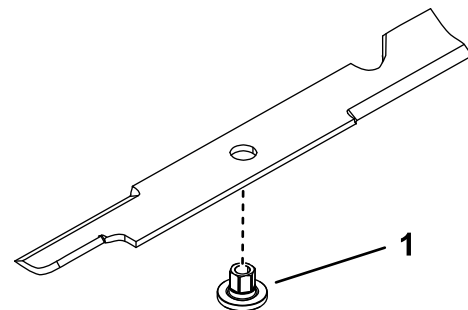

Figure 99
1. Install the bushing through the blade with the bushing flange on the bottom (grass) side of the blade (Figure 99).